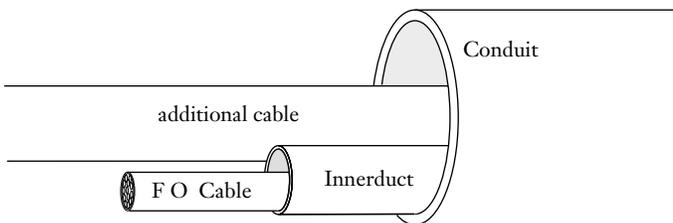

Figure 15
7.16 If additional cables, specifically larger, bulkier cables, are to be installed in the same conduit, install the fiber optic cable inside an innerduct for mechanical protection (Figure 15).